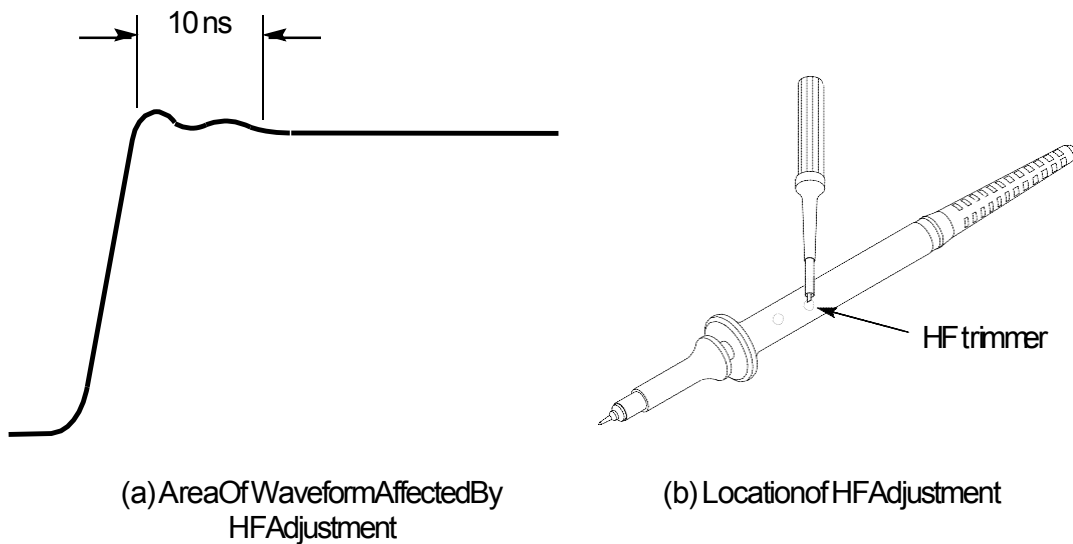

Figure1: HFCompensation
1. Connect the probe to the signal source to display a 1 MHz test signal on your oscilloscope. The display should be similar to that shown in Figure 1(a).